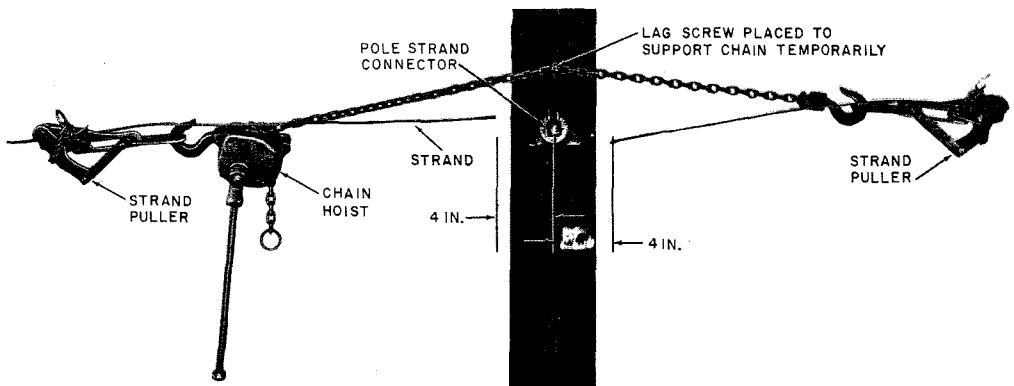

Fig. 10—Tensioning Strand for B Strand Grips
3.07 When using the B strand grip with a pole strand connector, the strand is tensioned in the same manner as when B guy clamps are used. The strand, however, is not overlapped but is cut off about 4 inches from the pole strand connector as shown in Fig. 10.